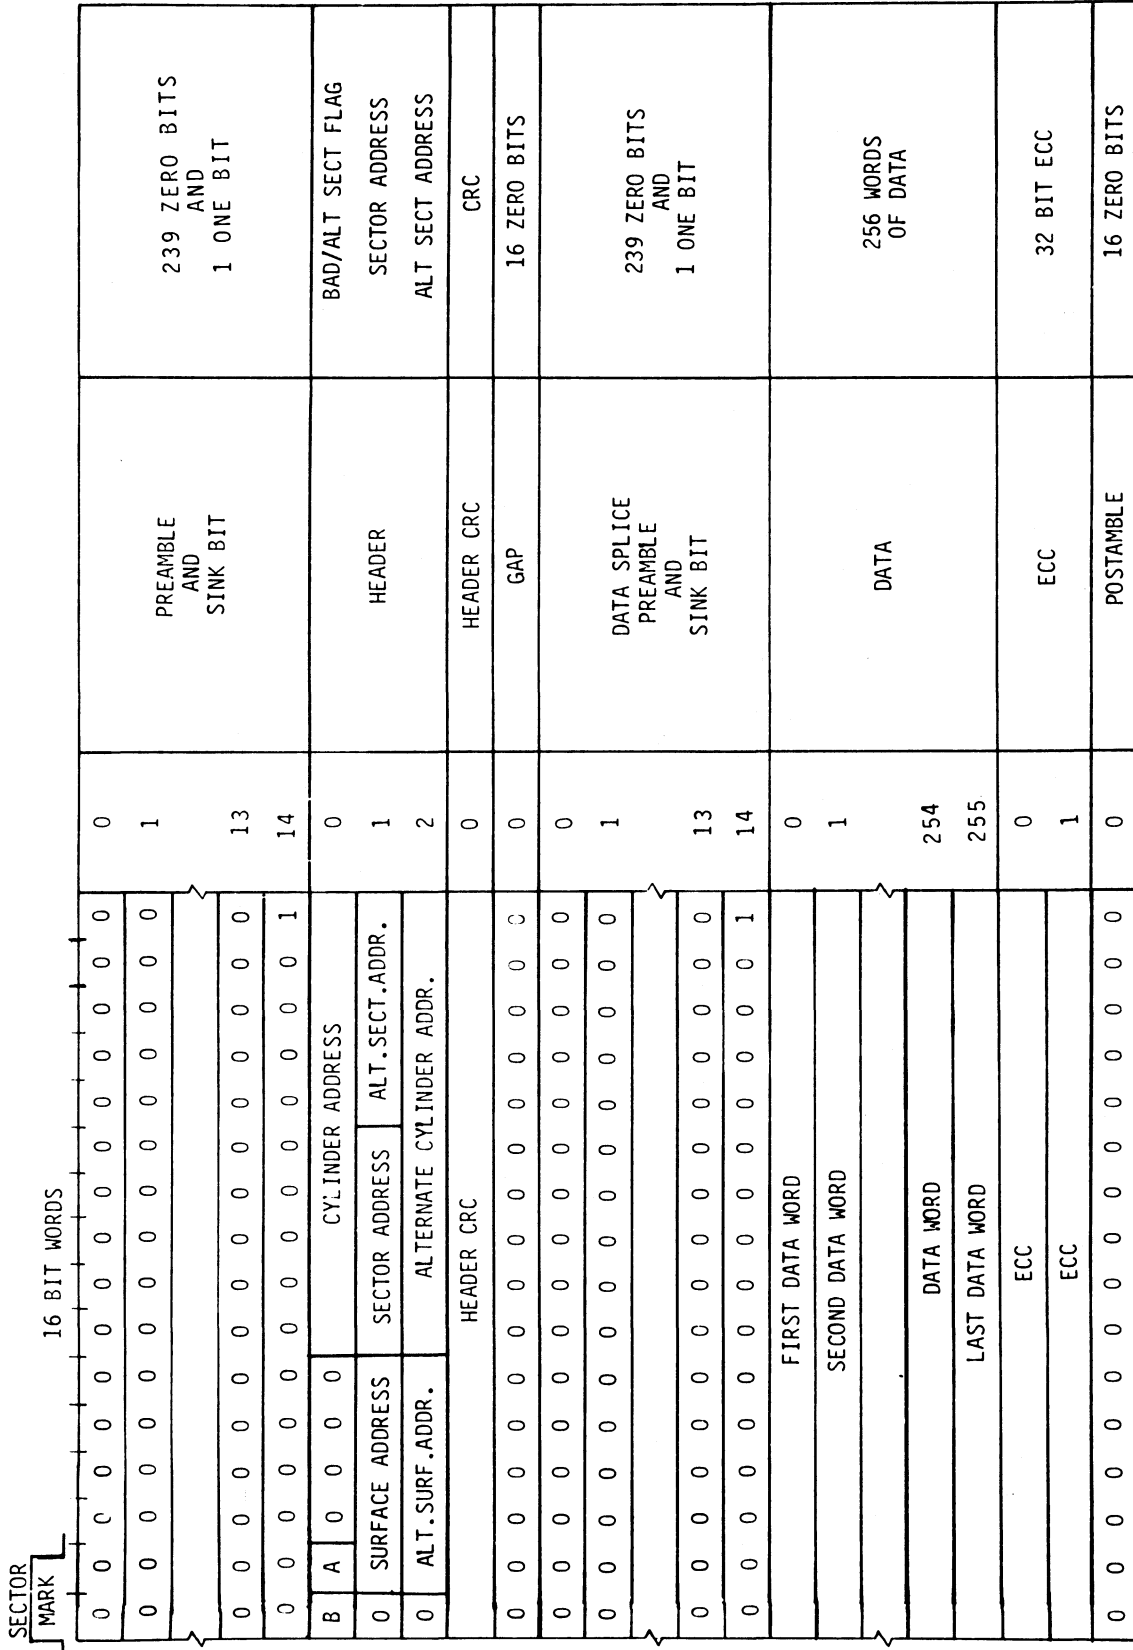

Figure 3-1. Configuration of a Formatted Sector
Before data transfer operations can take place the surfaces on the disc must be formatted. Formatting records a unique header at the beginning of each sector on the disc. This header contains the information necessary to identify each sector. Figure 3-1 represents the configuration of a formatted sector.
When the controller writes data into a sector, it generates a 4-byte Error Correction Code (ECC) checkword immediately after the last data word (see Figure 3-1, Configuration of a Formatted Sector). When the controller reads data from a sector it generates an ECC remainder from the 512 bytes of data and the four bytes of ECC checkword. If the remainder generated is nonzero, an error has occurred in data transfer. The ECC error flag is set to one (1) in the controller.